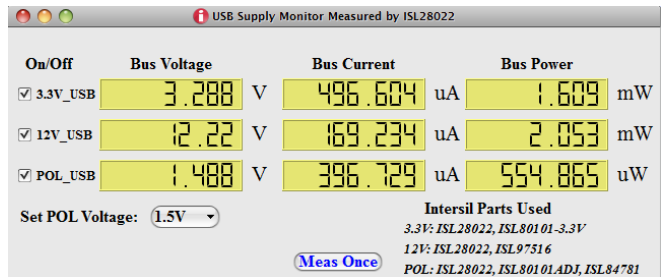

FIGURE 12. USB SUPPLY DIALOG BOX
- The ISL28022 Demo Software allows a user to build their own board to mate with the Dongle board. The final design of the third party board may use the dongle generated power supplies. The user can monitor the current draw for each of the Dongle supplies by selecting USB Supplies under the Dongle drop down menu. The dialog box in Figure 12 will appear once the USB Supplies are selected.